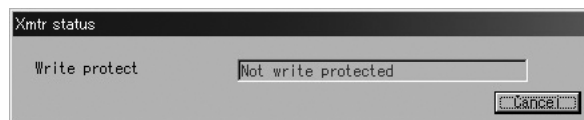

Fig.114
② A message box like the one shown in Fig. 114 appears. You can grasp the status of the transmitter.